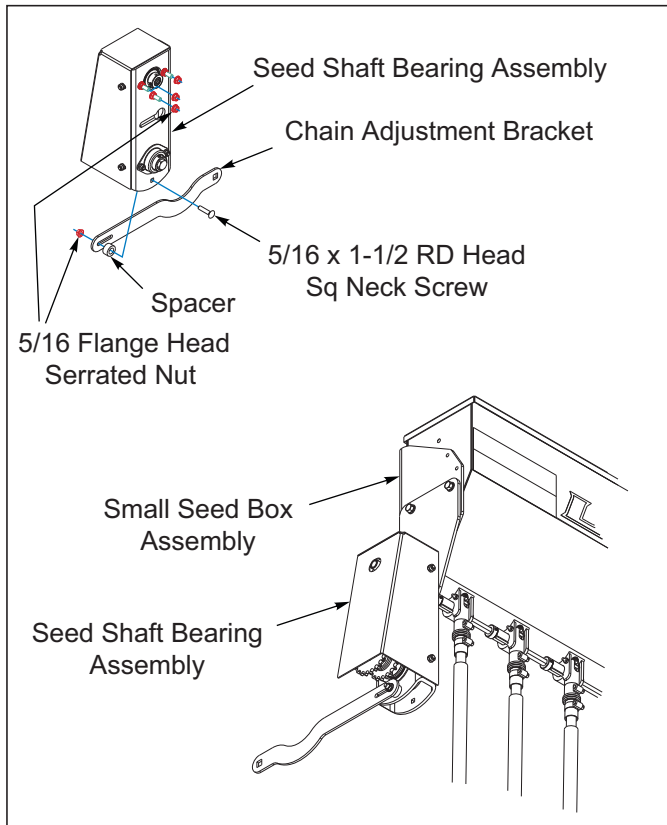

Figure 3-4: Attaching Chain Adjustment Bracket to Small Seed Bearing Assembly
7. Remove the three outer locking nuts on the seed shaft bearing assembly **See Figure 3-4**. Slide the bearing assembly over the small seed square meter shaft. Insert the bearing assembly mounting screws into the small seed drive mount located on the end of the small seed box assembly. Loosely install the three locking nuts to hold the bearing assembly in place.
10. Attach the slotted rear hole of the chain adjustment bracket to the outer hole of the small seed bearing assembly with a 5/16-18 x 1-1/2 round head square neck screw, 1" OD spacer and hex flange nut **See Figure 3-4.**